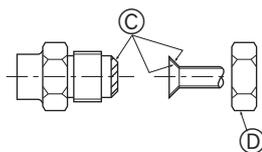

Fig. 5-6
- ① Connect a gauge manifold valve (pressure gauge included) to the service port near the gas stop valve of the outdoor unit so that the refrigerant pressure can be measured.
- ② Turn on the power supply (circuit breaker).
- ③ Close the liquid stop valve, and then perform the test run for cooling operation (SW4-1: ON and SW4-2: OFF).
- ④ Fully close the gas stop valve when the pressure reading on the gauge drops to 0.05 - 0.00 MPa* (approximately 0.5 - 0.0 kgf/cm²).
- ⑤ Stop the air conditioner operation (SW4-1: OFF and SW4-2: OFF).
- ⑥ Turn off the power supply (circuit breaker).
5.5. Connecting pipes (Fig. 5-6)
- Apply thin layer of refrigerant oil to pipe and joint seating surface before tightening flare nut. ①
- Use two wrenches to tighten piping connections. ②
- Apply refrigerating machine oil over the entire flare seat surface. ③
- Use the flare nuts as follows. ④
① (Fig. 5-6)
② (Fig. 5-6)